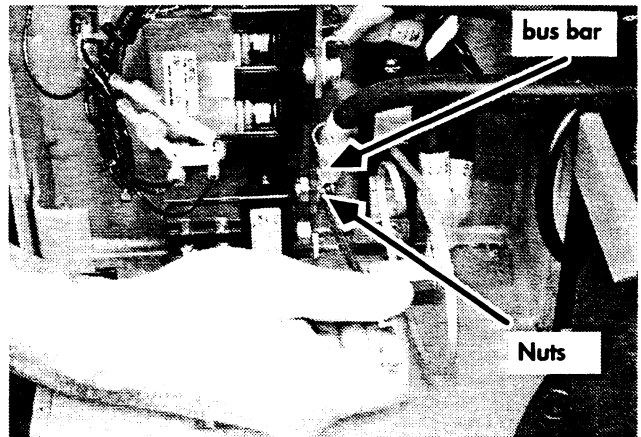

Figure 6-18: Disconnecting Bus Bar From Contactor
4. Remove the nuts holding the bus bar and cable to the contactor. See Figure 6-18.